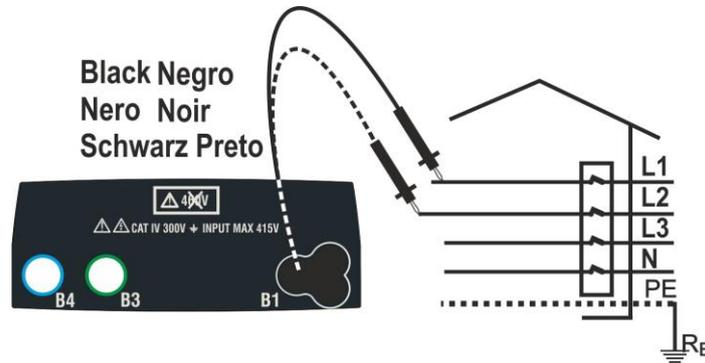

Fig. 35: Phase sequence check with test leads
2. Insert the black lead connector into the corresponding input B1 of the instrument. As an alternative, use the single cable and apply the relevant alligator clips to the free ends of the cables. It is also possible to use the remote switch probe by inserting its multipolar connector into the input B1. Connect the alligator clips or the remote switch probe to the electrical mains according to Fig. 35 or Fig. 36.
- Under these conditions, connect the alligator clips, the tips or the remote switch probe to phase L2 in accordance to Fig. 35 or Fig. 36.